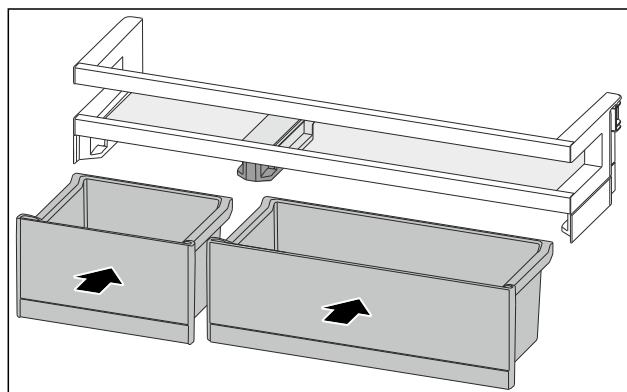

Fig. 108
- Insert the VarioBoxes in reverse order. (see Fig. 108)